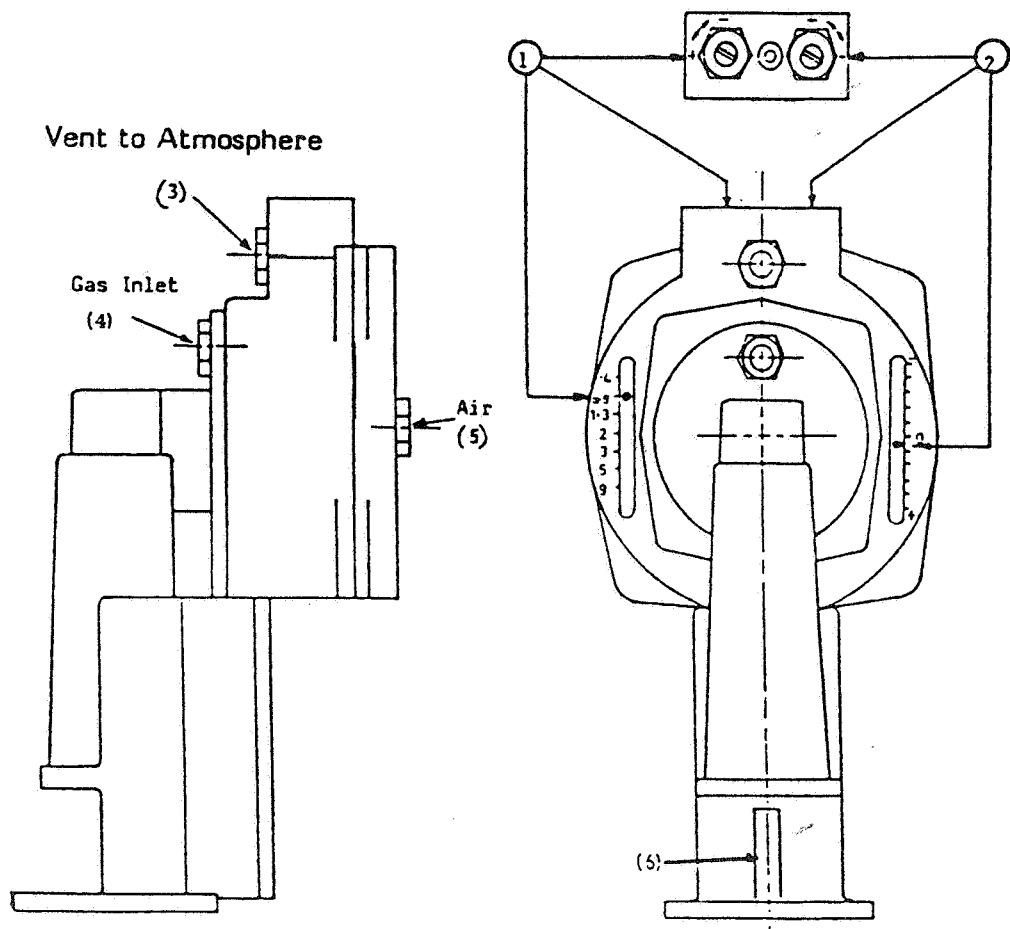

Fig. 10. Air/Gas Ratio Controller.
9.3.1 AIR/GAS RATIO CONTROLLER (FIG. 10).
Check the gas rate with suitable and approved instruments. Should adjustments to the gas rate be necessary refer to paragraphs 9.3.1, 13.3.2 and Fig.10 for Two Stage High/Low, and paragraphs 9.5, 13.3.1 and Fig. 11 for Single Stage On/Off burners.
Set the gas to air ratio to the desired value using the setting screw (1) on the left (coarse setting) (Fig. 10).
Return to low fire operation, check CO₂ or O₂ content in the flue gases and, if necessary, correct the characteristic until optimum values are reached, using the setting screw (2) on the right (Fig. 10). Direction "+" = increase in gas volume (lack of air), direction "-" = parallel displacement of characteristic towards lack of gas (excess air).